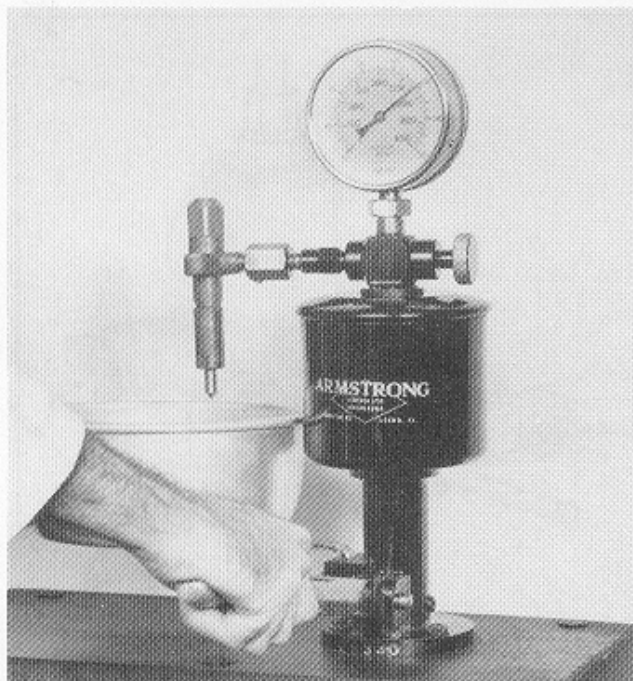

Figure 3.10
**3.26** Using the test rig (Figure 3.10) test and set up the fuel injector as follows: